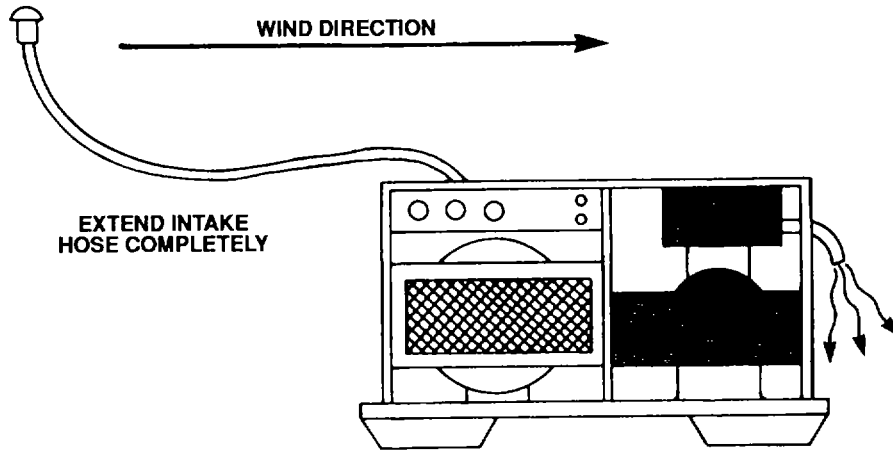

Figure 2-4. Intake Hose Extended
- a. Ensure that the engine exhaust is located downwind and the compressor air intake with rain cap is upwind and fully extended. See figure 2-4.